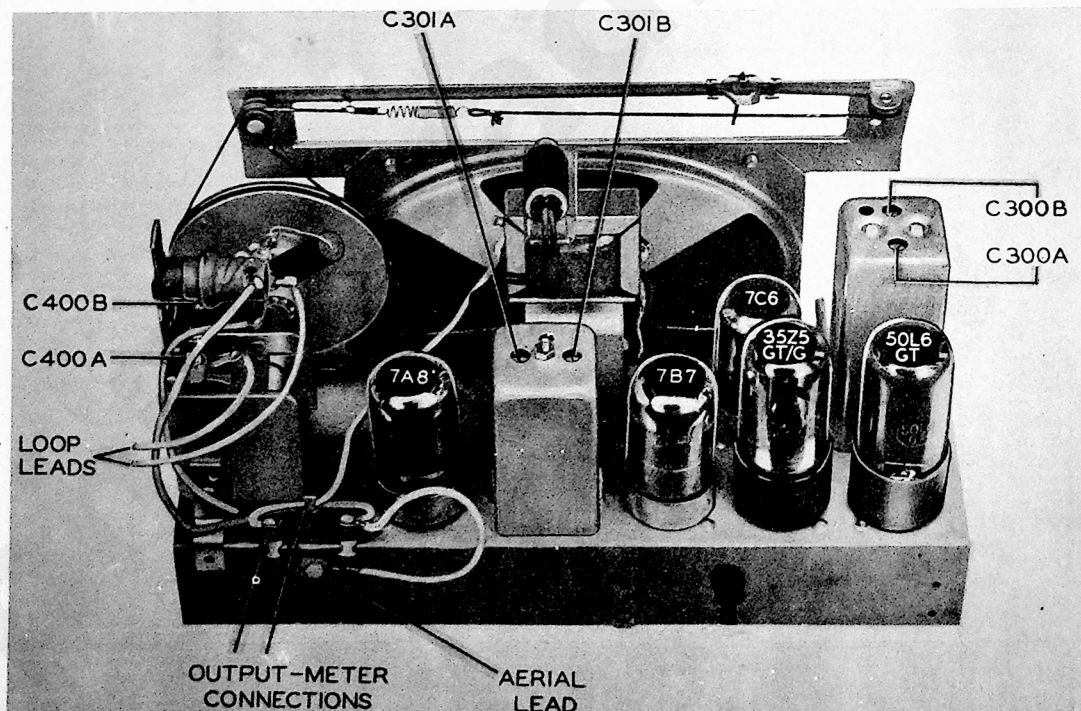

Figure 11. Top view showing trimmer condenser locations.
**OUTPUT METER.** Connect to output (left hand) and ground (center) lugs, as shown in figure 11.